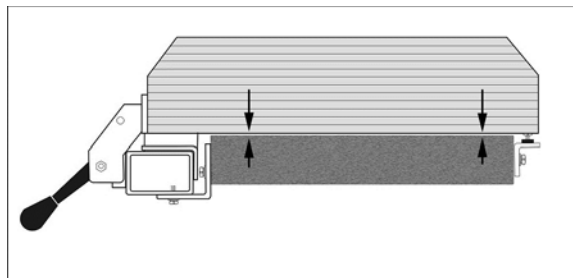

Figure 10
1. Check the clearance between the table and the bottom of the fence (Figure 10). The fence should not rub against the table surface but be slightly above it. This gap should be the same at the front of the table as it is at the back.